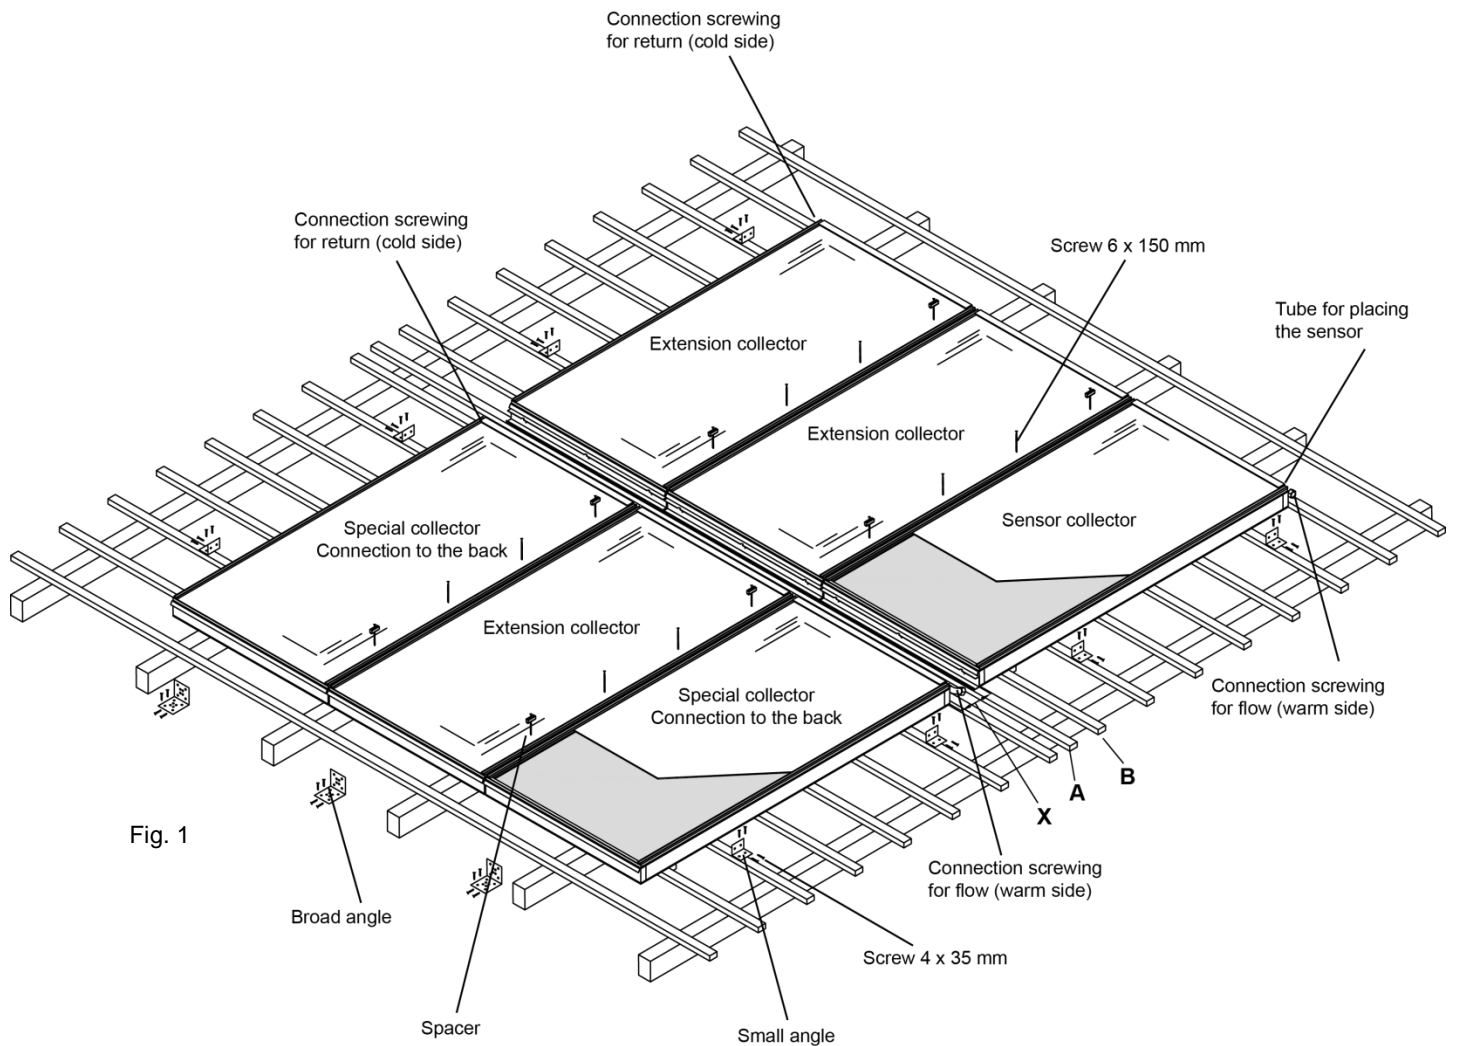

Fig. 1
3. First install the lower collector row on the cleared part of the roof. **Please note, starting with the special collector (with connections to the back) on the right side of the array.** There is a roof batten on the back of each collector which hooks over an exiting roofing batten. This prevents the collector from sliding down the roof until it is fixed (Fig. 1).
4. The extension collectors are also placed on the roof battens. Slide them from the left side to the next collector until the joining edges interlink (see Fig. 1 and Fig. 2). **The last collector of the lower collector field is the other special collector (with connections to the back).**
9. For the assembling of the upper collector-row on the roof 2 additional roof battens have to be installed on site (Fig. 1 and Fig. 3, A + B). The roof batten B has to be fixed in a way that the distance between the collector-rows measures 200 mm (length X, Fig. 1). Between the upper and the lower row the supplied wood-construction has to be placed. Each distance-rail is fixed 3 times on the additionally mounted roof-batten with screws of dimension 5 x 50 mm (see Fig. 1 and Fig. 3). Afterwards the upper collector-row can be fixed.
10. Using a flexible connection set (optionally available) the connection of the upper collector field to the interior is made. **Please note, that the collector on the right side is the flow (warm side) and the left collector is the return (cold side) – see Fig. 1!**
12. Using the torx screws 6 x 150 mm and the long slots the collectors are fixed at the roof battens (Fig. 1 and 2). **NOTE! For achieving the correct distance between the collectors the spacers have to be placed (Fig. 1, 2 and 4)!**
13. Using the small mounting angles the collectors are fixed twice at the roof battens on the left and the right side of the complete collector field (Fig. 1).